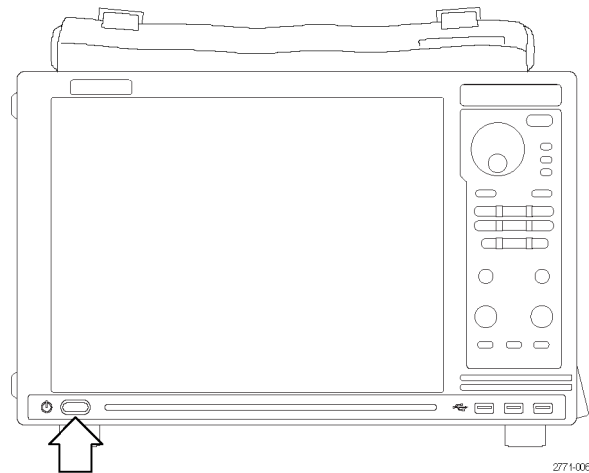

Figure 3: On/Standby switch location
3. Press the On/Standby switch to turn on the logic analyzer. (See Figure 3 on page 8.)